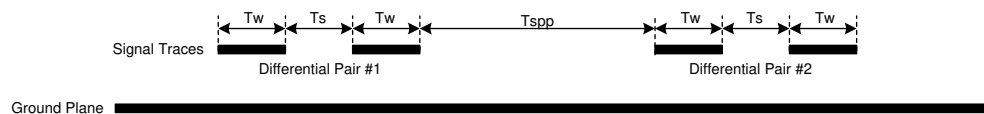

Figure 10-16. DMD Differential Layout Recommendations
DLPC7540 I/O timing parameters as well as DMD I/O timing parameters can be found in their corresponding data sheets. Similarly, PCB routing mismatch can be budgeted and met through controlled PCB routing. PCB design recommendations are provided in Table 10-8 , Figure 10-16, and the paragraph below as a starting point for the customer.
- (1) Recommendations to achieve the desired nominal differential impedance as specified by R_{DIFF} in Section 6.7.
- (2) These parameters show recommendations based on the micro-strip design shown in Figure 10-16. This design minimizes signal loss to support longer trace lengths at the expense of electromagnetic interference (EMI). The designer has the option to use of a stripline design for shorter trace lengths and to target minimizing EMI at the expense of signal loss.
- (3) A reduced inter-lane spacing can be used to escape the Controller ball field, however, widen this spacing to at least the stated minimum after escape.